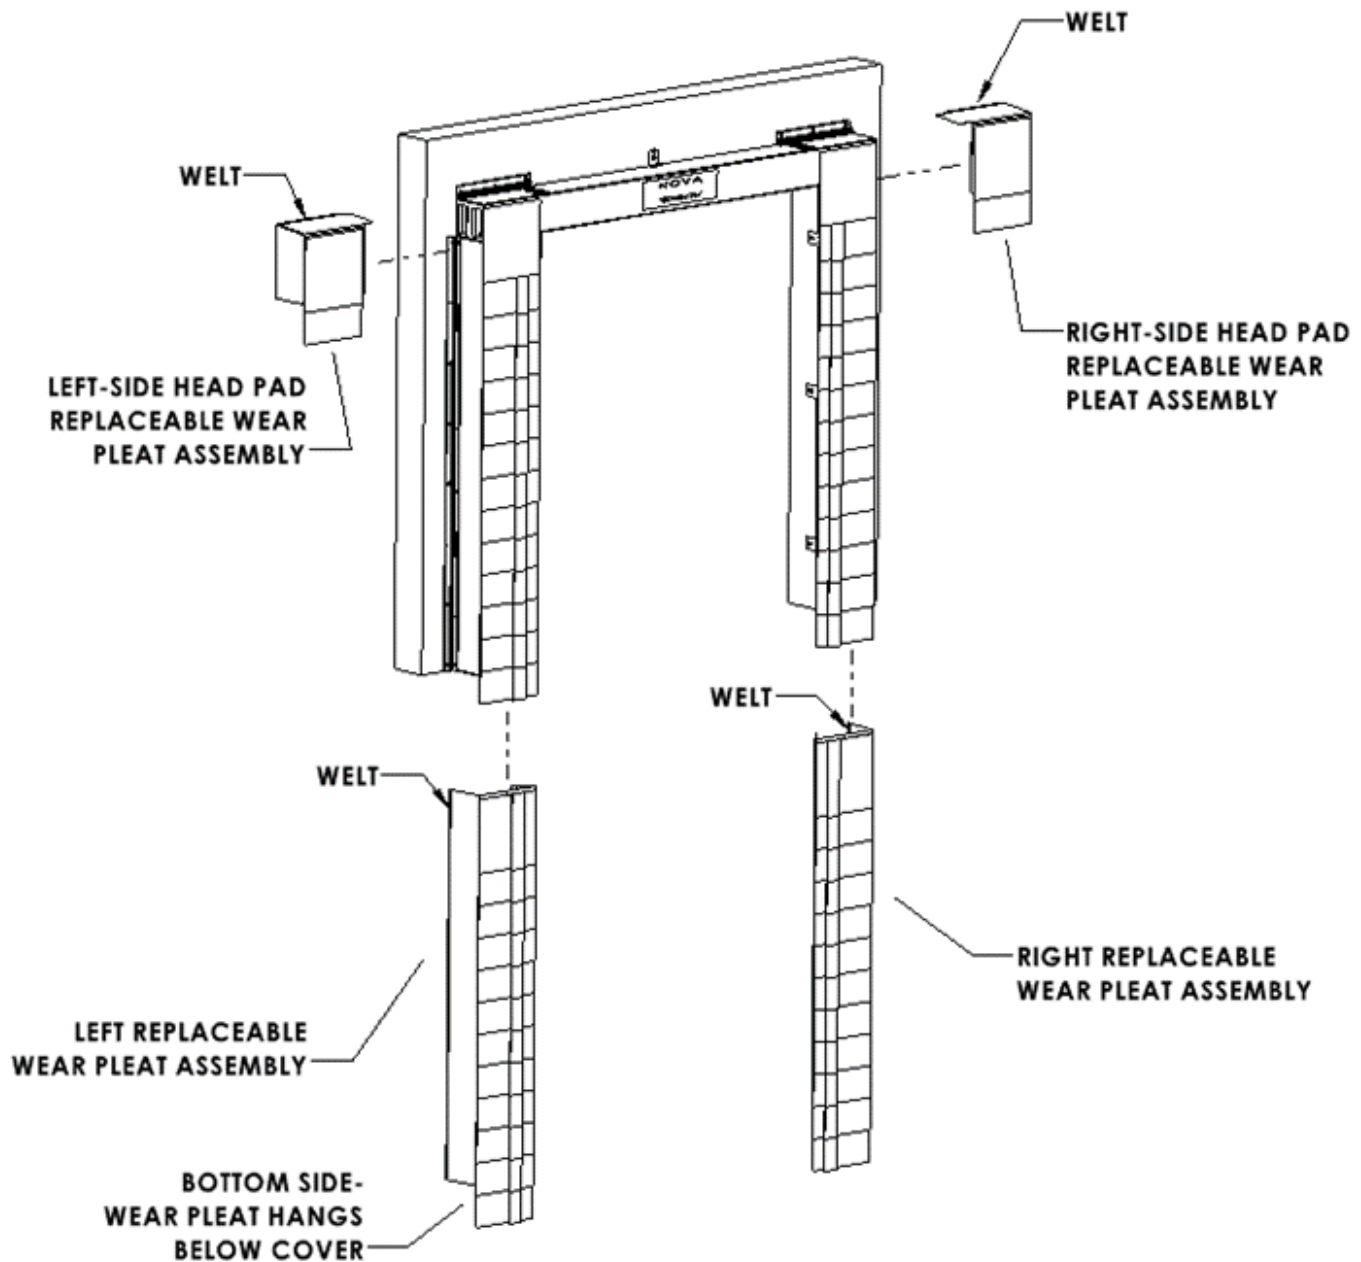
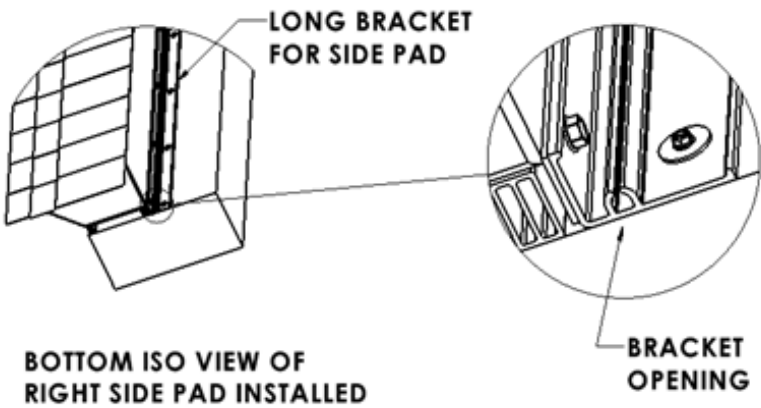
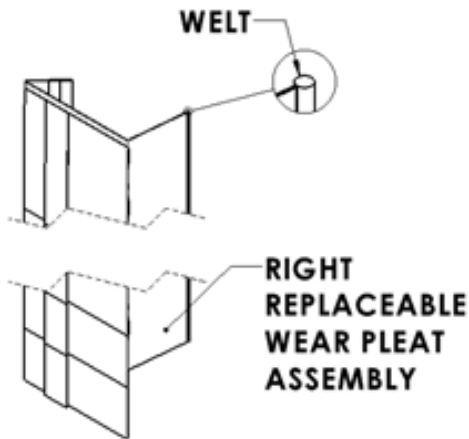
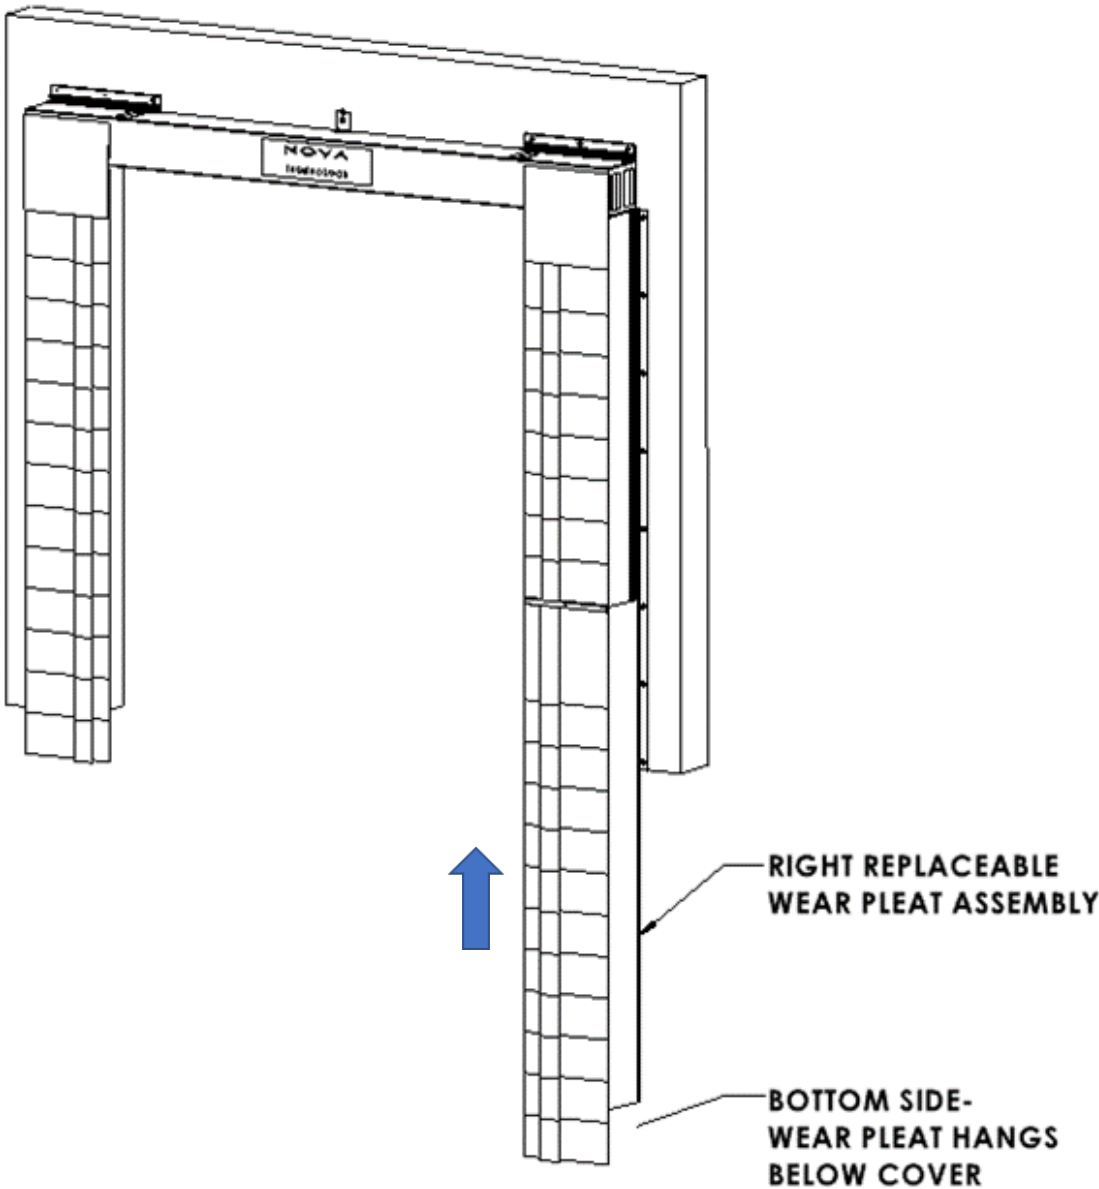

FIGURE 1
FIGURE 2
FIGURE 3
FIGURE 4
1. INSTALL THE RIGHT REPLACEABLE WEAR PLEAT ASSEMBLY (B) ON THE RIGHT SIDE PAD:
- c. Take the Right Replaceable Wear Pleat Assembly (B) and slide the welt side up into the bottom of the Long Bracket opening (Figure 1, Figure 2, Figure 3 & Figure 4). Slide it upward until the bottom Wear Pleat on the Right Replaceable Wear Pleat Assembly is aligned directly in front of the bottom Wear Pleat on the Right-Side Pad.